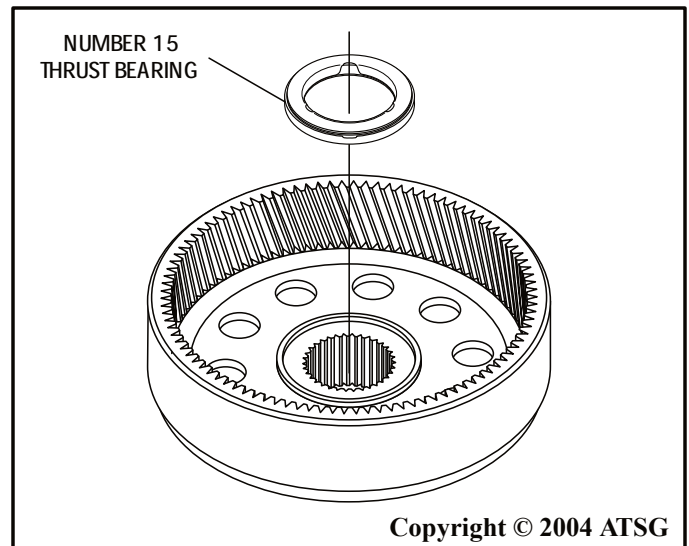

Figure 158
10. Install number 15 thrust bearing in direction shown in Figure 158, and retain with a small amount of Trans-Jel®.